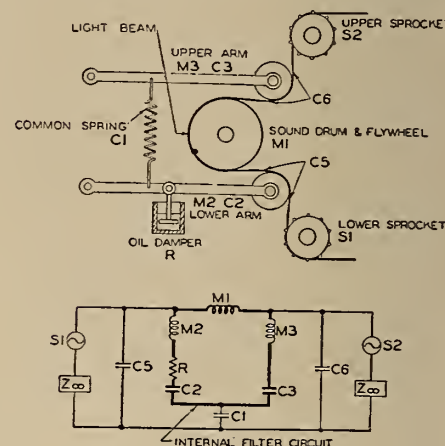

FIG. 2. Double-arm filter.
Since substantially equal amounts of tension in some form must exist at either side of the translation point, tension must be introduced to offset that of the lower film loop. Two methods have been developed to accomplish this. Fig. 1 shows the single-arm filter used in the Century Master reproducers. Fig. 2 shows the double-arm filter used in the Century Standard reproducers.
The single-arm type shown in Fig. 1 uses a magnetic drag producing a completely free film loop above the scanner. The double arm type shown in Fig. 2 differs from the single-arm type in that the magnetic drag and pressure pad roller are replaced by an idler arm and plain roller similar to that used in the
The same detail as is apparent in Fig. 2 can be obtained by viewing this enlargement from a greater distance.
It is important for an understanding of Tv to appreciate how the number of particles or areas into which a picture is broken up affects the type and quality of the reproduction. The quality of the picture will be improved as the number of elements is increased. In order to compare the effect of breaking up a picture into a varying number of elements, consider the two reproductions shown in Fig. 2 (A) and (B). These are reproductions of the same photograph, the only
The engraver, in making his halftone, places a fine mesh screen in front of his camera so that the image is broken down into a series of dots, the actual size of any dot depending upon the amount of light on the area which the dot represents. Where the picture is dark, the size of the corresponding dot is large, and where the image is light the size of the black dot is correspondingly small. The number of dots into which Fig. 2 (A) is broken down is 60 per inch; while Fig. 2 (B) is broken down into 120 per inch.
FIG. 2 (left): halftone reproduction of a photo using screen of 60 dots to the inch. (Right): greater detail obtained here by using screen of 120 dots to the inch.
If a picture of a given scene is enlarged, either the total number of elements must be increased, or the picture must be viewed from a greater distance. Fig. 2 illustrates the first two factors, fineness of detail and viewing distance. Fig. 3, which shows Fig. 2 *enlarged* to twice its original size, illustrates the third factor. Fig. 2 (B) contains 120 dots per inch; Fig. 3 contains only 60 dots per inch. Each contains the same total number of elements, therefore the fineness of detail is the same in each.
An idea of the number of elements needed to reproduce fine details can be obtained from Fig. 2 (B). This had 120 dots or elements per inch in an area 1.5 by 2 inches, giving $180 \times 240 = 43,200$ total elements, or 14,400 elements per square inch. Tv pictures may be considered to contain about 224,000 elements regardless of picture size. Although this does not work out to be so great a number per square inch on large picture-tube screens, the fact that the scene is usually in motion compensates for some loss of detail.